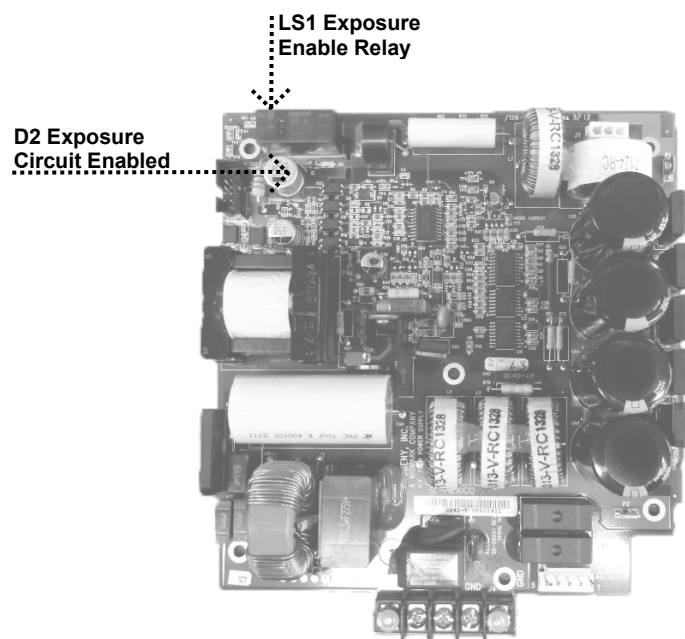

Figure 69
2. If the Operator Display indicator sounds, but the Logic Board indicator does not activate, observe LED D2 on the Power Supply Board, and listen for the relay LS1 to activate on this same board (*Figure 69*). LED D2 should illuminate during the exposure request. If not, inspect the condition of the ribbon cable between the Power Supply and the Logic Boards. If the ribbon cable is acceptable, replace the Logic Board.